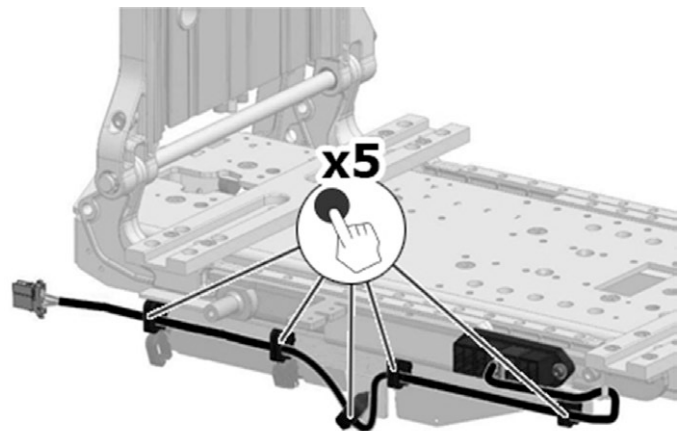

Figure 133. Tilt Motor Cable mounted with five cable brackets (Seat depth 370–520 mm (15"-21")).
3. Based on the seat depth, the cable either requires five or four cable brackets on the right hand side of the seat. If the seat depth is set between 370 – 520 mm (15" - 21"), the cable is mounted in five cable brackets. See fig. 133.